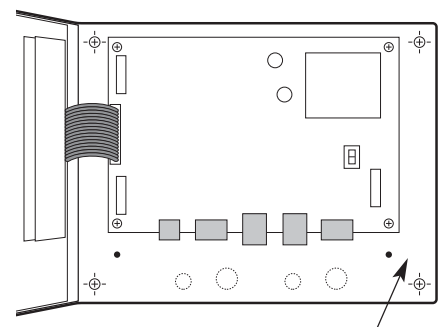

Figure 2
- Taking care to protect the User Interface board on the enclosure door, drill/punch entries as required (see Fig 2).